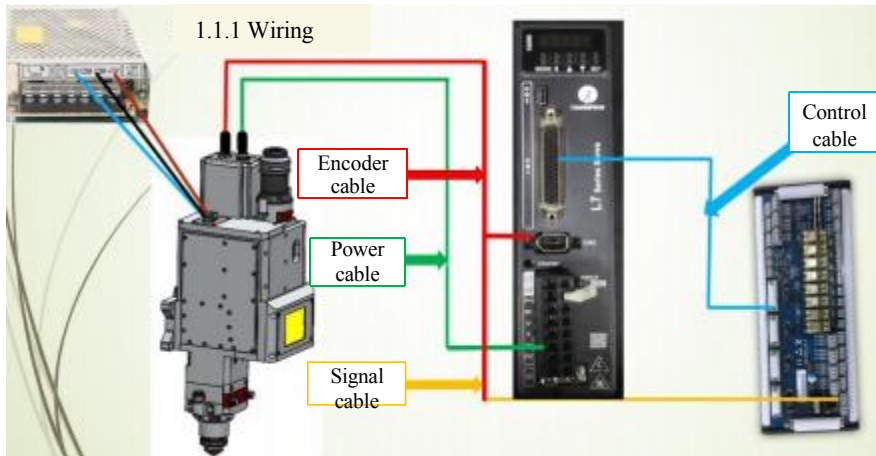

Figure 1.7
- ① Wiring diagram, as shown in Figure 1.7.